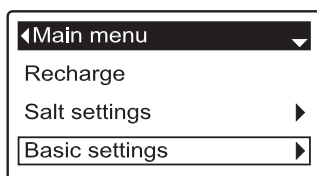

FIG. 39
1. From any of the rolling status screens, press the SELECT (O) button to display the **Main menu**.
2. Press the DOWN (▼) button to scroll through the menu options until **Basic settings** is highlighted (See Figure 39).